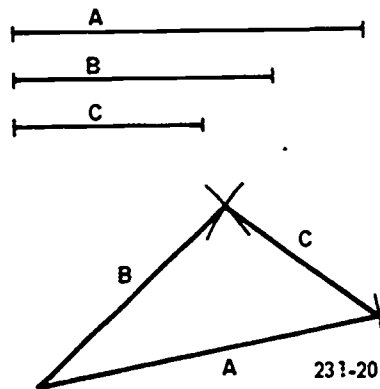

Figure 4-20. Constructing a triangle with three given sides.
**Construction of a Triangle with Three Given Sides.** As you practice, follow this procedure (see fig. 4-20):
- (1) Draw one side, such as side A, in any position.
- (2) With side B as a radius, strike an arc from either end of the line A.
- (3) With side C as a radius, strike an arc from the opposite end of A and intersect the first arc.
- (4) Draw a line from the ends of side A to the point of intersection.